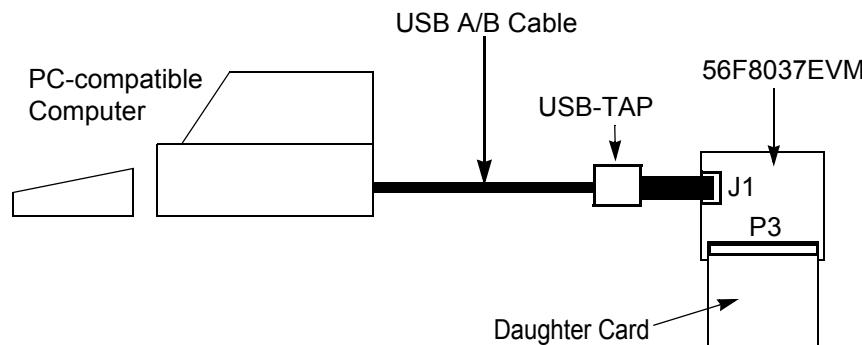

Figure 1-4. 56F8037EVM Cabling for External +3.3V Power
An interconnection diagram is shown in Figure 1-4 for connecting the PC and a user-supplied Daughter Card providing +3.3V DC to the 56F8037EVM.
2. Connect the other end of the USB-TAP cable to the USB-TAP module. Connect the ribbon cable from the USB-TAP module to J1 on the 56F8037EVM, shown in Figure 1-4. This provides the connection which allows the host computer to control the board.
4. Connect the Daughter Card to P3 on the 56F8037EVM, shown in Figure 1-4.